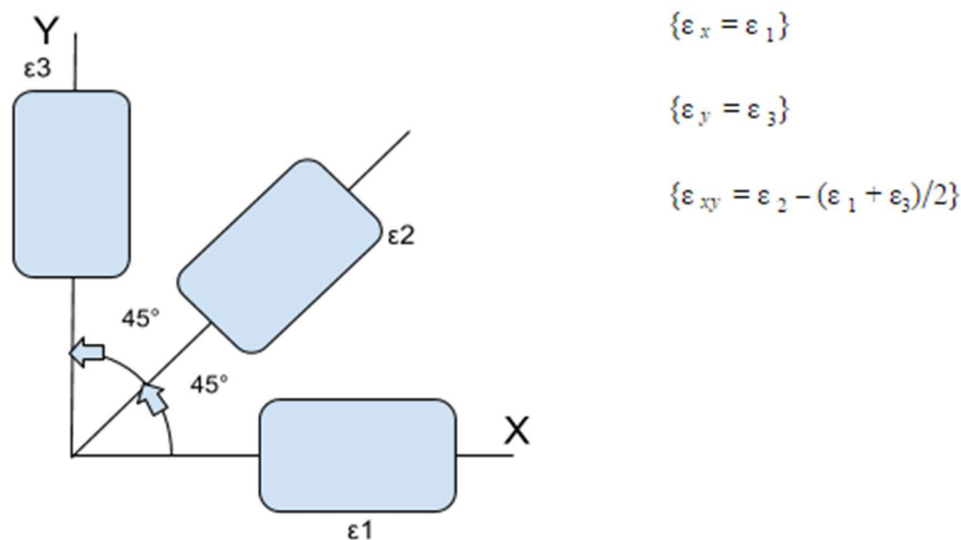

Figure 6: Rectangular Rosette diagram
- A strain tensor consisting of two normal (ϵ_x , ϵ_y) strains and a shear strain (ϵ_{xy}) are calculated from the measured rosette strain gauge arms ϵ_1 , ϵ_2 , and ϵ_3 as shown in *Figure 6* or *Figure 7*.
Rectangular Rosettes separate gauges by 45° placing a strain gauge on both the X and Y coordinate axes as seen in *Figure 6*.